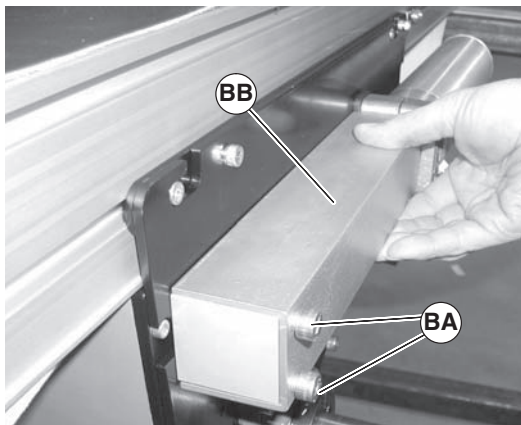

Figure 81
2. Remove screws (Figure 81, item BA) and tensioning guards (BB) from both sides of center drive.